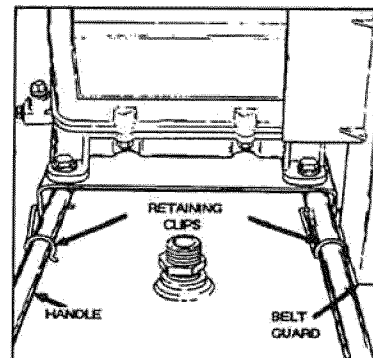

FIG. 4
3. Rotate each retaining clip clockwise and press down until it snaps into place over the pull handle (Fig. 4).